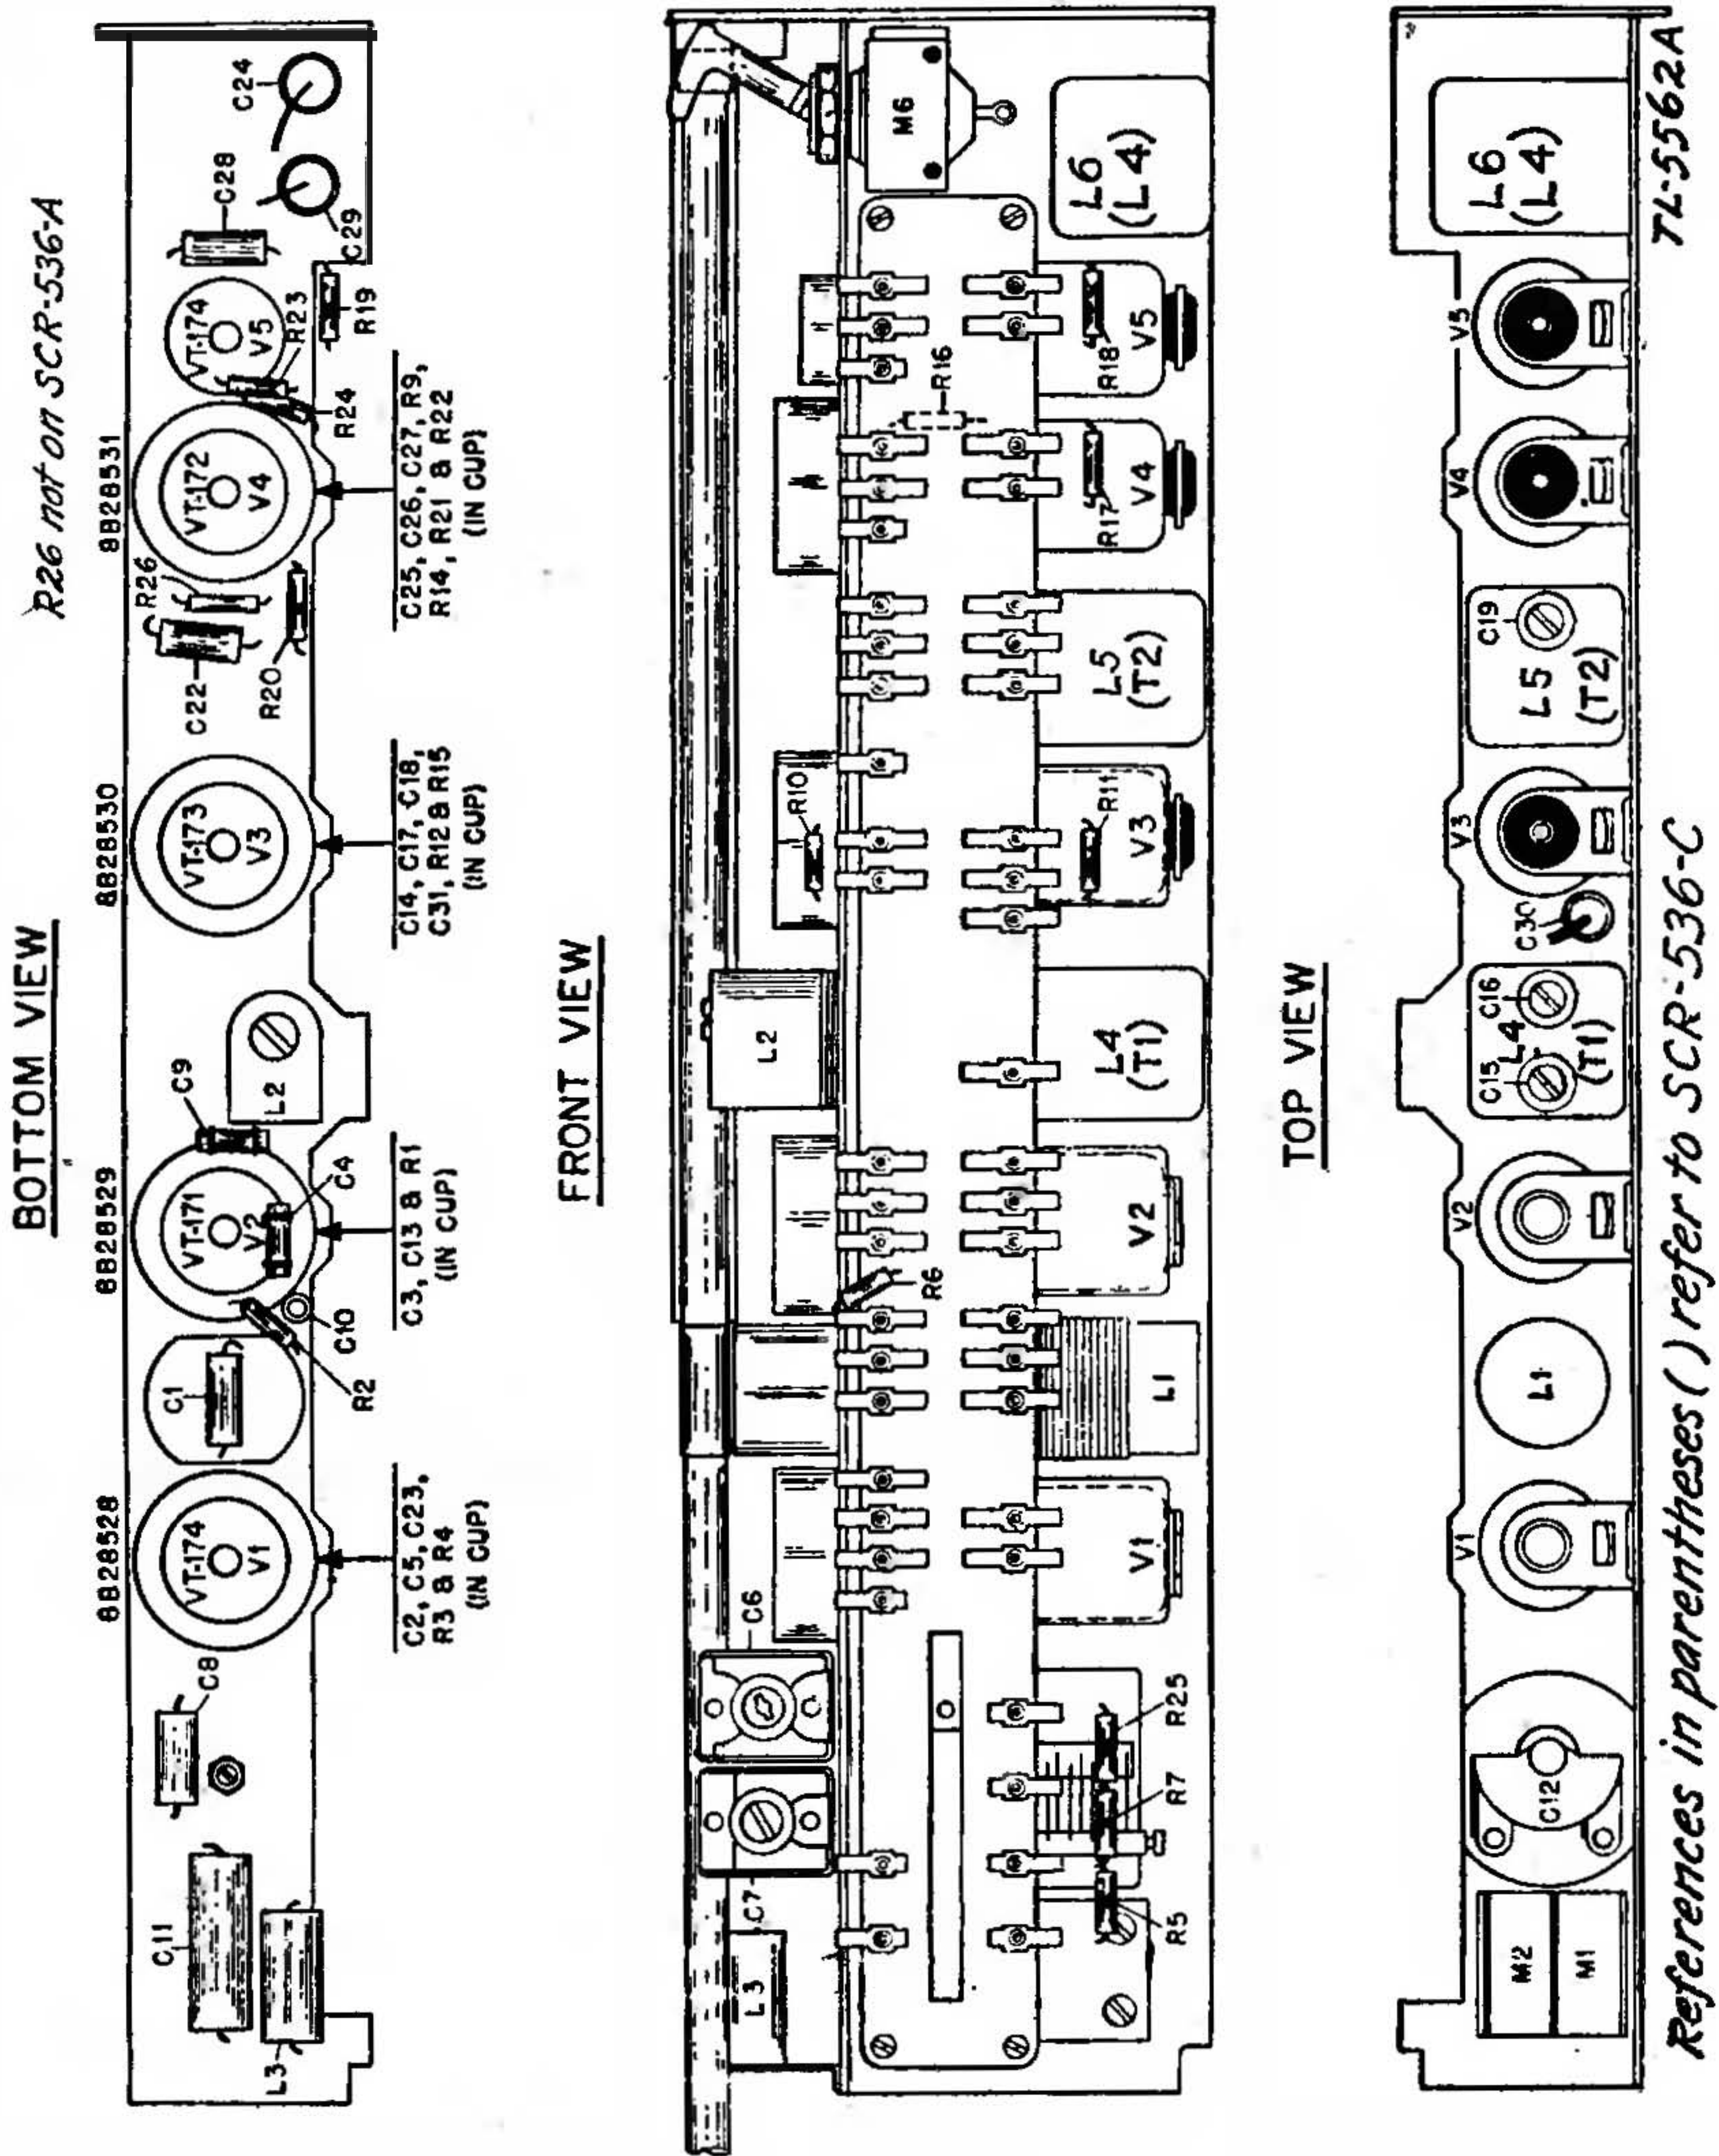

FIGURE 8.—Radio receiver and transmitter BC-611-(\*)—location of parts.
*b.* The antenna coil is larger and of different shape than the r-f tank coil. Its base connections also differ, so it is impossible to put the coils in the wrong sockets. Both coils are of the plug-in type. (See figs. 8 and 10.)
*a.* To preset the operating frequency of radio receiver and transmitter BC-611-(\*), obtain a coil and crystal equipment of the desired frequency. The coil and crystal equipment comes in an individual carton marked with the frequency and contains the transmitter and receiver crystals, the antenna coil, and the r-f tank coil. The antenna coil is larger and of different shape than the r-f tank coil. Its base connections also differ, so it is impossible to put the coils in the wrong sockets. Both coils are of the plug-in type. (See figs. 8 and 10.)